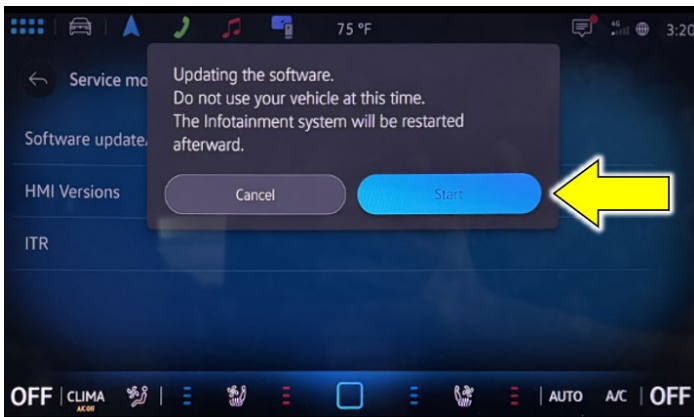

Figure 5: Start button
- Start the software update with the “Start” button (see figure 5).